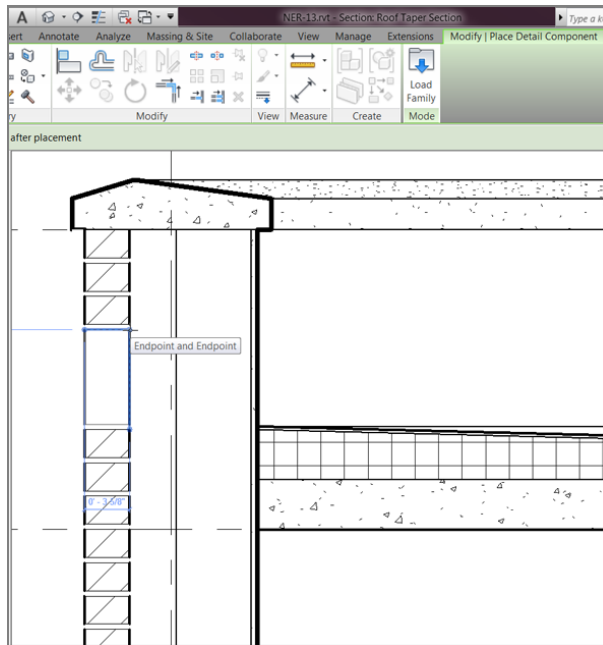

FIGURE 12.13: Placing the new detail component
3. Press the spacebar until it's flipped as shown in Figure 12.13, and place the new detail component into the model as shown.